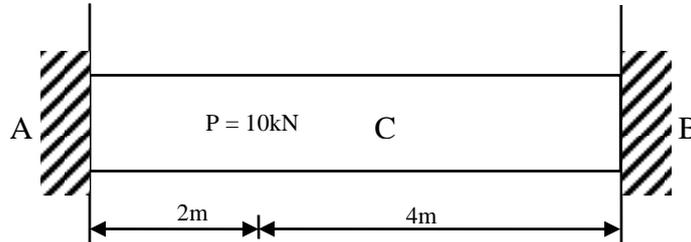

Figure 3.0
- (b) A fixed end bar with cross section area A is subjected to an axial force P as shown in the Figure 3.0. Assume $A=15\text{cm}^2$, $E =20 \times 10^6 \text{ N/cm}^2$. Determine the displacement at point C.